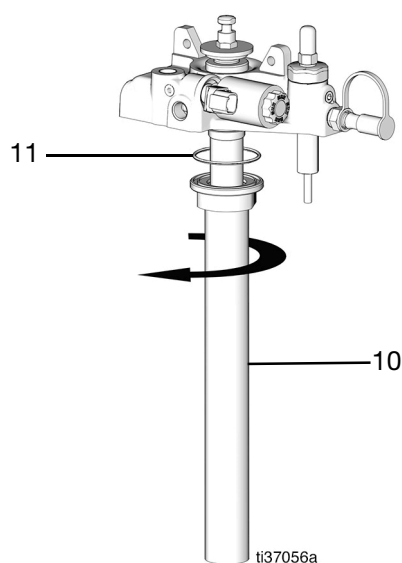

FIG. 35
14. Remove the tube-in-tube (10) with a pipe wrench. Verify the o-ring (11) is on the tube-in-tube (10) (FIG. 35).